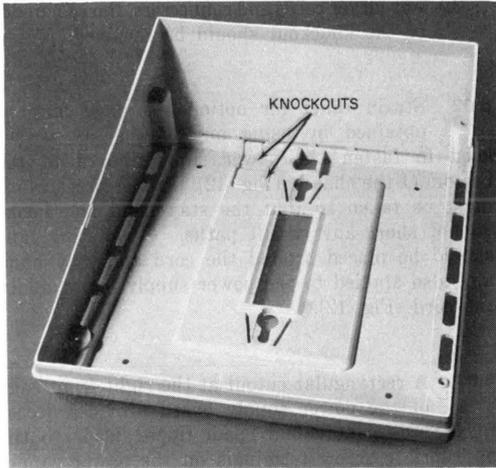

Fig. 11—Lower Housing Removed Showing Knockouts for Access by Adjunct Cords
8.01 Knockouts are provided in the bottom rear of the lower housing (Fig. 11), to accommodate the additional cords associated with the connections of wiring options such as speakerphone, SPOKESMAN® service, etc.